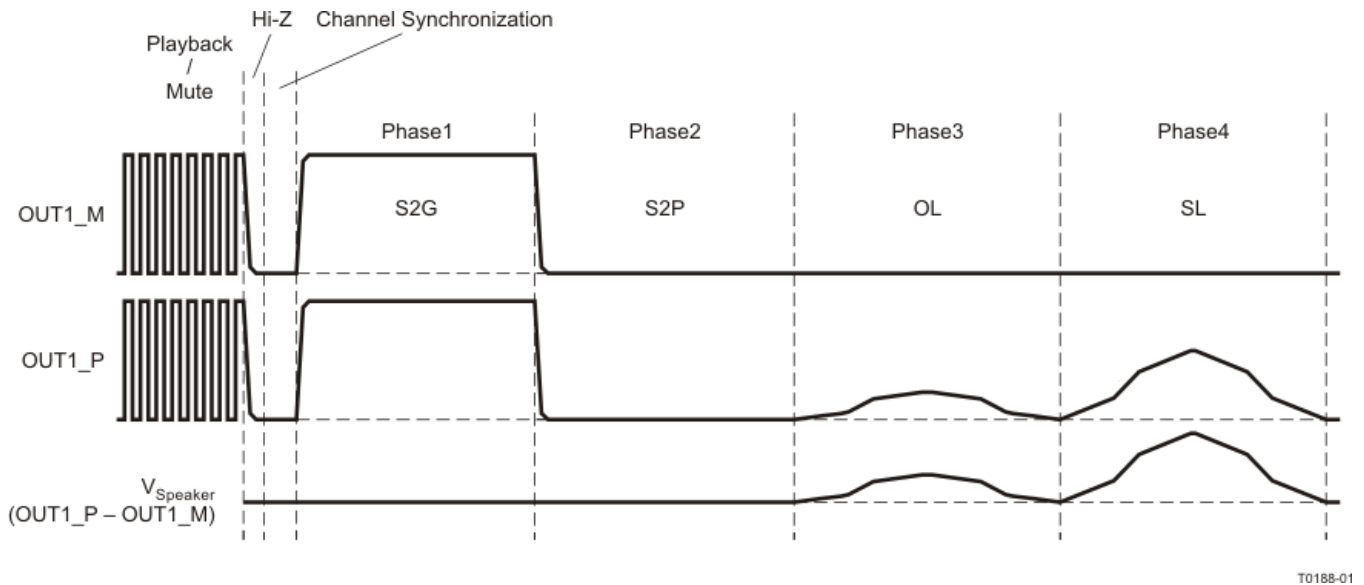
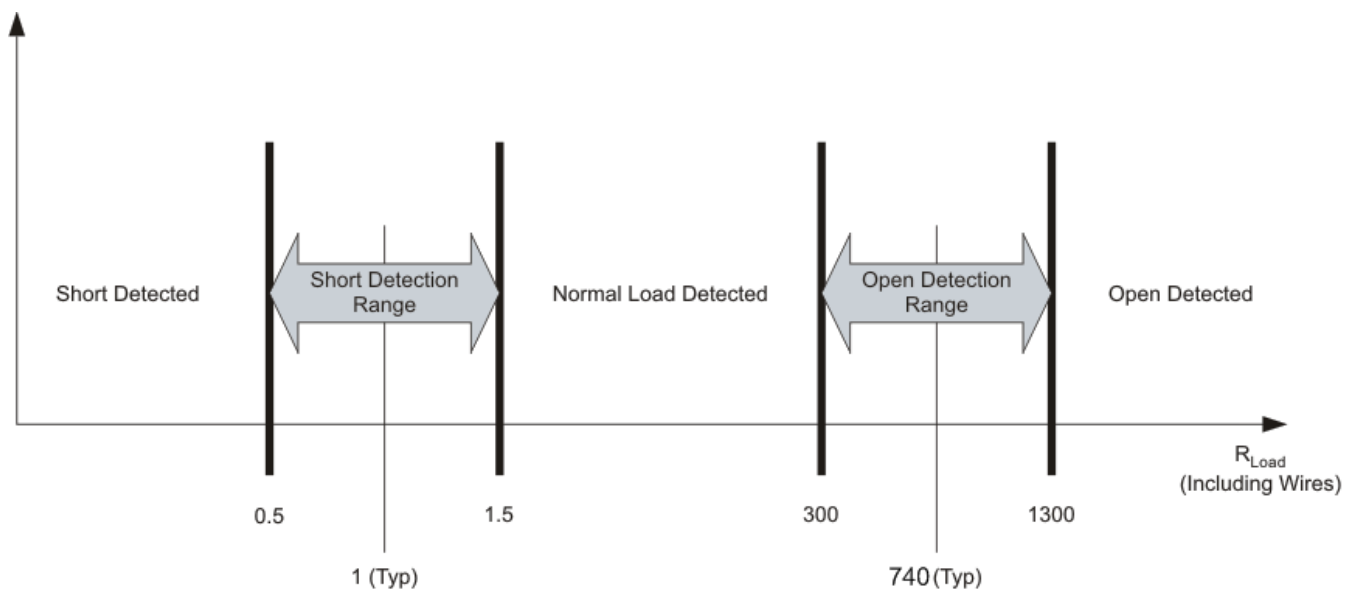

Figure 10. Load Diagnostics Sequence of Events
Figure 11. Open- and Shorted-Load Detection
1. **Output Short and Open Diagnostics** — The device contains circuitry designed to detect shorts and open conditions on the outputs. Invocation of the load diagnostic function can only occur when the output is in the Hi-Z mode. There are four phases of test during load diagnostics and two levels of test. In the full level, all channels must be in the Hi-Z state. Testing covers all four phases on each channel, all four channels at the same time. When fewer than four channels are in Hi-Z, the reduced level of test is the only available option. In the reduced level, the only tests available are short to PVDD and short to GND. Load diagnostics can occur at power up before moving the amplifier out of Hi-Z mode. If the amplifier is already in play mode, it must *Mute* and then *Hi-Z* before performing the load diagnostic. By performing the mute function, the normal pop- and click-free transitions occur before the diagnostics begin. Performance of the diagnostics is as shown in Figure 10. Figure 11 shows the impedance ranges for the open-load and shorted-load diagnostics. Reading the results of the diagnostics is from the diagnostic register via I²C for each channel. With the default settings and MUTE capacitor, the S2G and S2P phase take approximately 20 ms each, the OL phase